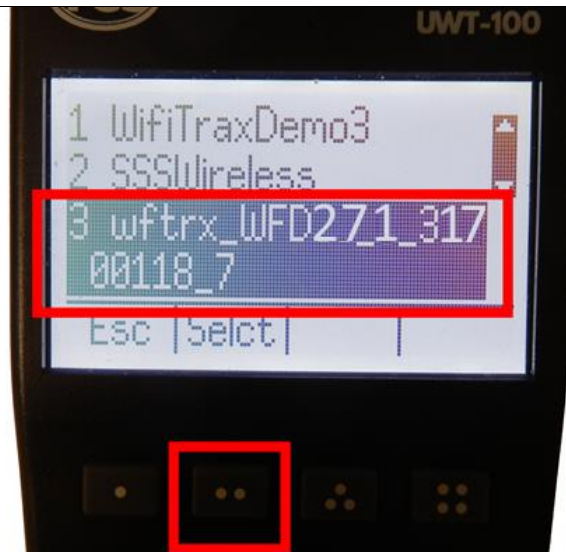

Figure 23 Select the Wi-Fi Network of the WFD-27
- (5) In the Found Networks list, identify the one which has the form wftrx_WFD27_1_XXXXXXX_7, where XXXXXXXX is the serial number of your unit as Figure 23. Select that Network, using the Selct [...] key.